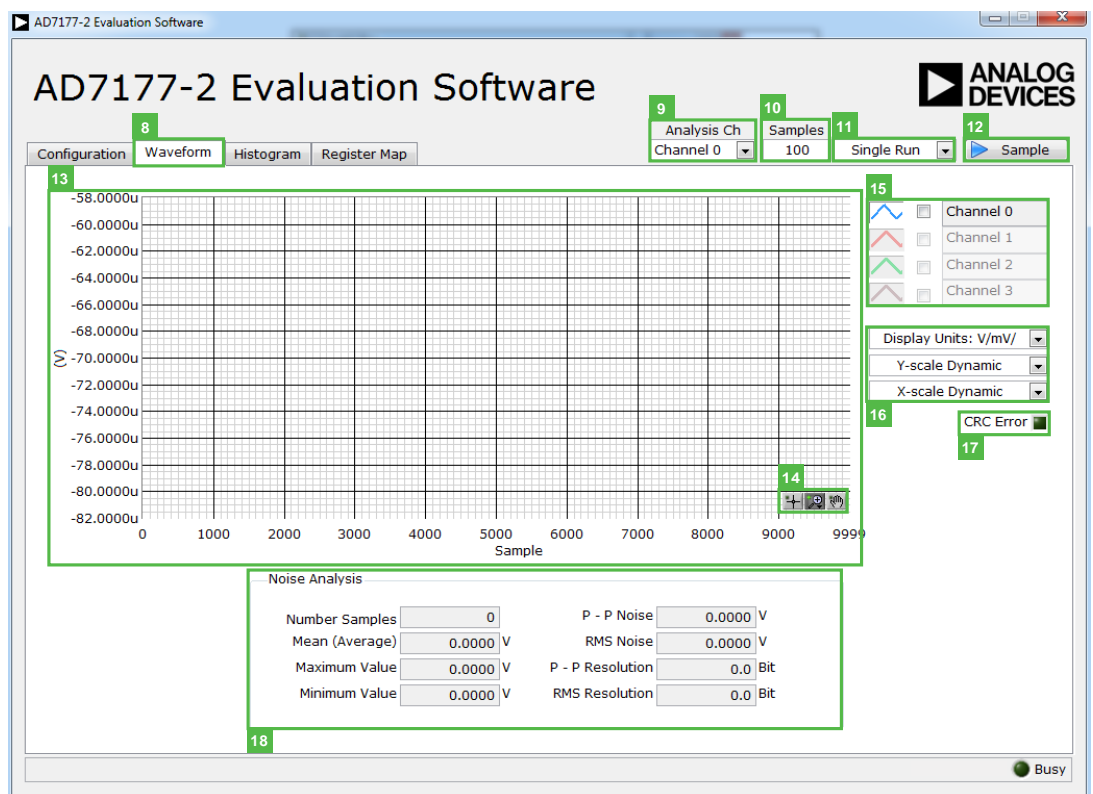

Figure 8. **Waveform** Tab of the **AD7177-2** Evaluation Software
The **Noise Analysis** section and Histogram Graph shows the analysis of the channel selected via the **Analysis Ch** (labeled 9 in Figure 8) drop-down combo box.
The **Samples** (labeled 10 in Figure 8) numeric control and batch control (labeled 11 in Figure 8) set the number of samples gathered per batch and whether only a single batch or multiple batches of samples are gathered. The **Samples** (10) numeric control is unrelated to the ADC mode. You can capture a defined sample set or continuously gather batches of samples. In both cases, the number of samples set in the **Samples** (labeled 10 in Figure 8) numeric input dictates the number of samples.
Click the **Sample** button to start gathering ADC results. Results appear in the waveform graph (labeled 13 in Figure 8).
The data waveform graph shows each successive sample of the ADC output. The control toolbar in the graph allows you to zoom in on the data. Click the x-axis and y-axis to change the scales on the graph (see Figure 8).
The channel selection control allows you to choose which channels display on the data waveform. It also shows the analog inputs for that channel labeled next to the on and off controls (see Figure 8). These controls only affect the display of the channels and do not have any effect on the channel settings in the ADC register map.
Click the **Display Units** to select whether the data graph displays in units of voltages or codes (see Figure 8). This selection affects both the waveform graph and the histogram graph. The axis controls can be dynamic or fixed. When **Y-scale Dynamic** and **X-scale Dynamic** are switched on, the axis automatically adjusts to show the entire range of the ADC results after each sample batch. Click the drop-down arrows to select the fixed axis controls, which program the axis ranges to not adjust after each sample batch.
The **CRC Error** LED icon illuminates when a cyclic redundancy check (CRC) error is detected in the communications between the software and the AD7177-2 (see Figure 8). The CRC functionality on the AD7177-2 is disabled by default and must be enabled for this indicator to work.
The **Noise Analysis** section displays the results of the noise analysis for the selected analysis channel (see Figure 8). This section includes both noise and resolution measurements.